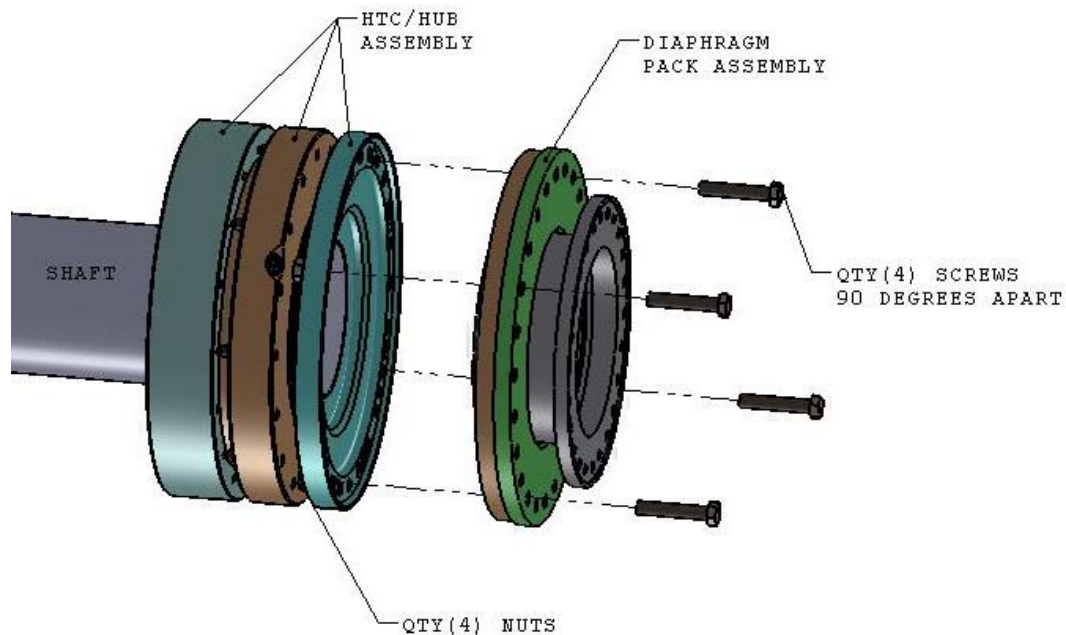

Figure 6 - Diaphragm Pack Installation
3.1.4 Install one of the diaphragm packs onto the hub as shown in Figure 6 using Qty(4) supplied bolts and nuts spaced 90 degrees apart. Tighten the bolts in a criss-cross pattern to seat the pilot. (Reference Form 367-SH, section 4.5.1.3)